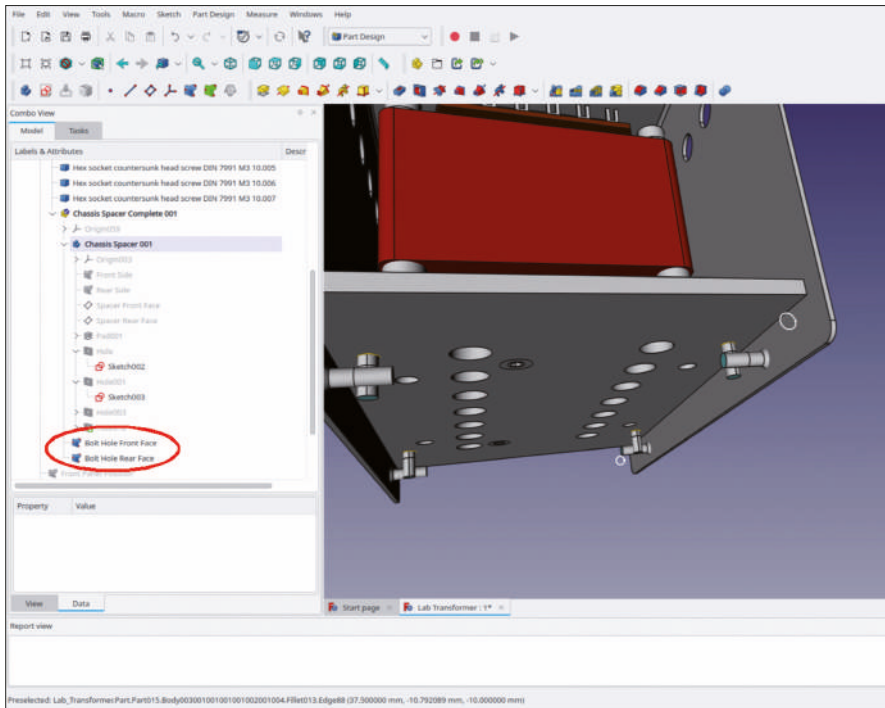

Figure 9-154
12. Set the property 'Trace Support' for both new shape binders to 'true'. Drag-and-drop both shape binders into the Std-Part-Container 'Chassis Spacer Complete 001' (Figure 9-154).